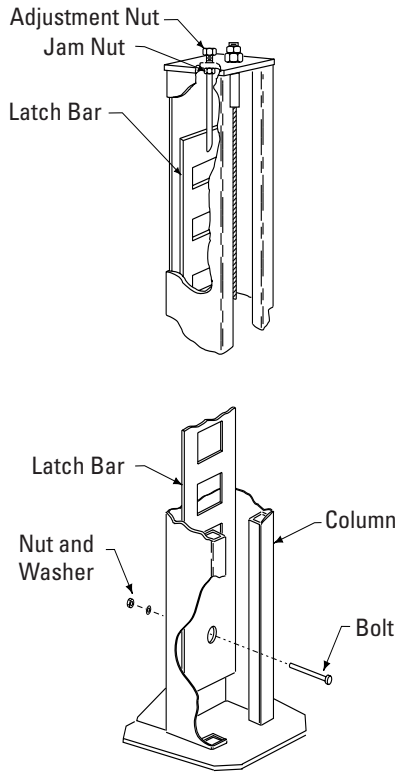

Fig. 10
- B. Install latch bars into front columns following Steps 5(A) to 5(C). Secure bottom of latch bar with long bolt, washer and nut, Fig. 10.